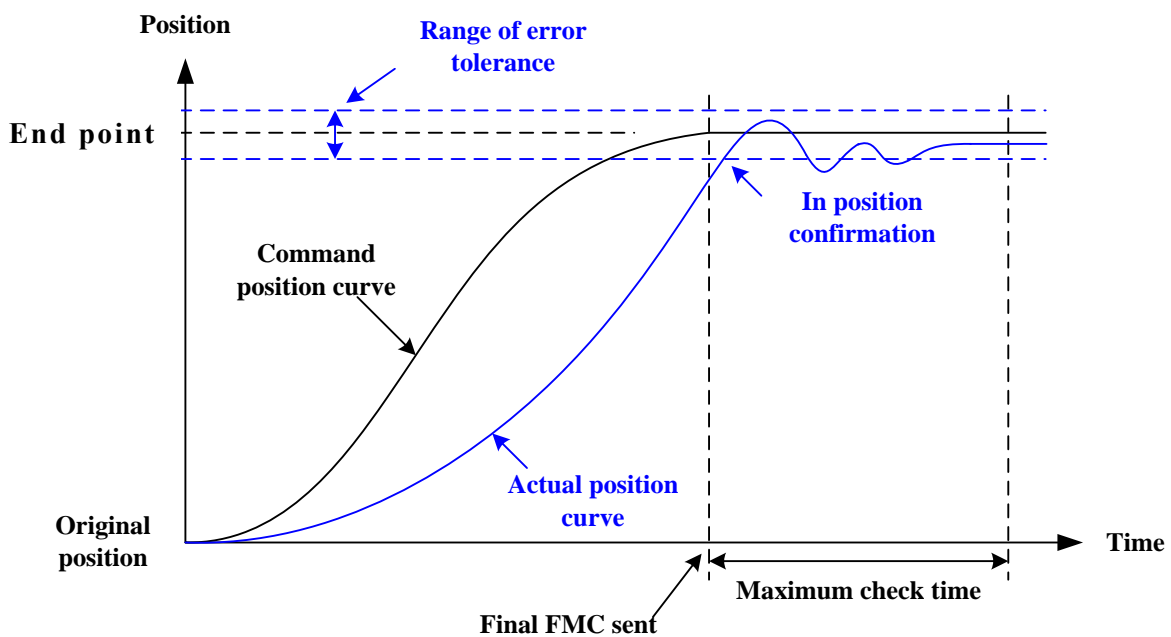

Fig. 2.7.2 IPM_ONETIME_BLOCK mode successful in position diagram
When the position error of each axis in the group is smaller than or equal to error tolerance range (can be set by using MCC_SetInPosToleranceEx(); unit: UU), the in position criteria of this mode are satisfied (see Fig. 2.7.2).
2. Once the system has been verified as successfully the in position confirmation, further in position verification will not be used (meaning that it will hold the in position status even if the actual position leaves the in position tolerance range; see Fig. 2.7.2) until the new motion command is given.